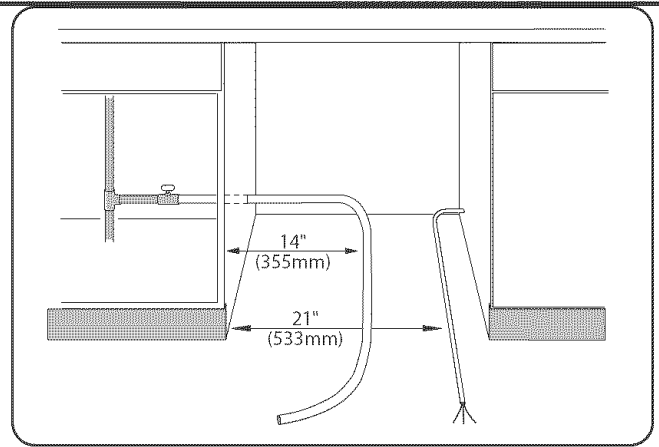

Figure 14
1) Straighten and position the hot water supply line and the electrical supply cable as shown in Figure 14 so that they will align with their channels under the dishwasher base.